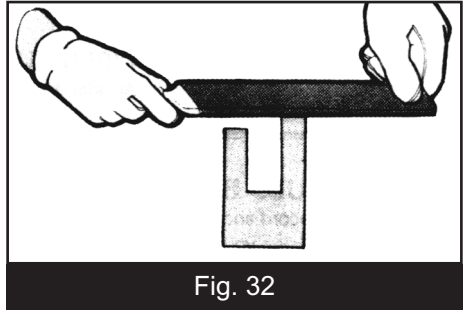

Fig. 32
- If one rail is higher than the other one, it is necessary to make it even with a flat file and then smooth them with a file or fine grain abrasive paper. (Fig.32)